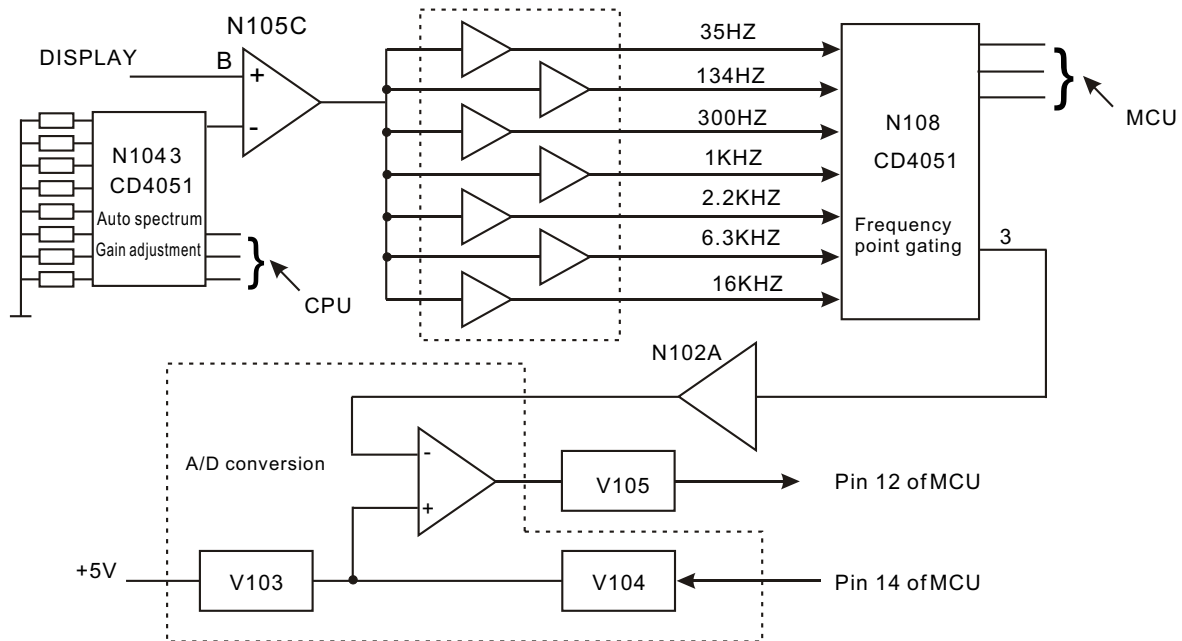

Figure 3.2.3.1 Spectrum analysis circuit
(1) Spectrum analysis circuit is composed of auto spectrum gain adjustment circuit, frequency point gating circuit, A/D conversion circuit and display output circuit, shown as in the following figure 3.2.3.1: